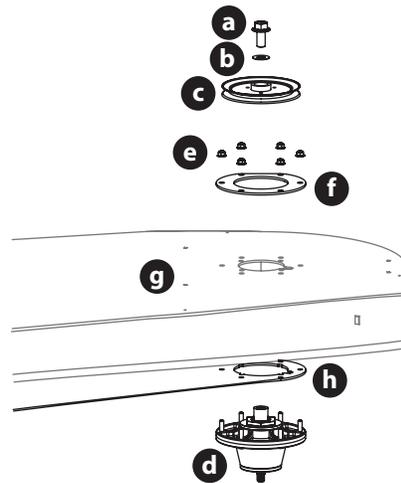
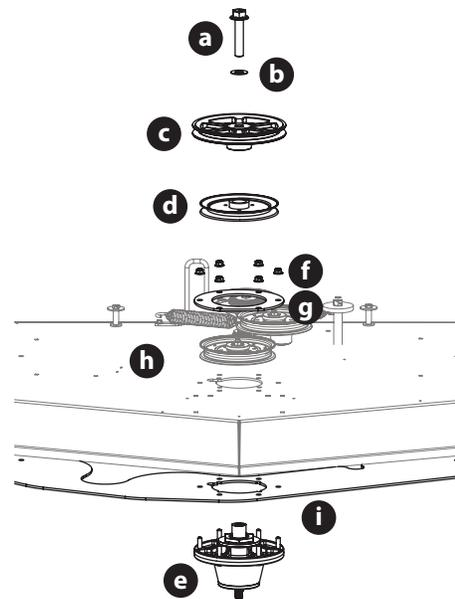

Figure 59
Figure 60
- Remove the hex flange bolts (a) and flat washers (b) securing the left and right spindle pulleys (c) to the spindle assembly (d) (Figure 59).
- Remove the 6 flange lock nuts (e) securing the left and right spindle assemblies (d) and the support plates (f) to the deck shell (g) (Figure 59).
**NOTE:** The deck support plate (h) does not need to be removed unless all three spindles are being replaced (Figure 59).
- Remove the hex flange bolt (a) and flat washer (b) securing the drive pulley (c) and center spindle pulley (d) to the spindle assembly (e) (Figure 60).
- Remove the 6 flange lock nuts (f) securing the center spindle pulley (d), spindle assembly (e) and the support plates (g) to the deck shell (h) (Figure 60).
**NOTE:** The deck support plate (i) does not need to be removed unless all three spindles are being replaced (Figure 60).
- Reverse the process to install the spindle assembly. When installing the new spindle assembly be sure to install the hardware exactly (Figure 59 and Figure 60). Torque the hex flange bolts to 250 ft-lbs (339 N-m) and the flange lock nuts to 21-32 ft-lbs (28-43 N-m).